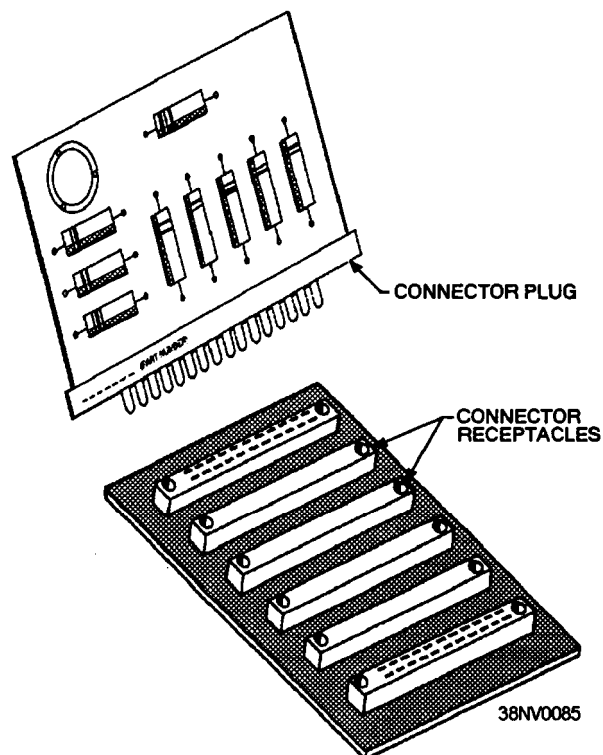

Figure 2-17.—Two-piece plug and receptacle pcb connector.
**TWO-PIECE PLUG AND RECEPTACLE PCB CONNECTORS.**— Two-piece plug and receptacle pcb connectors are used internally. Two-piece pcb connectors are basically the same as one-piece pcb connectors except the pcb is designed with a plug (male or female) on the card edge that plugs into a receptacle (male or female). Pins or contacts located on either receptacle or plug can be flat or round. See figure 2-17. Two-piece connectors are preferred over one-piece because they provide more resistance to shock and vibration. Terminations of conductor to receptacle